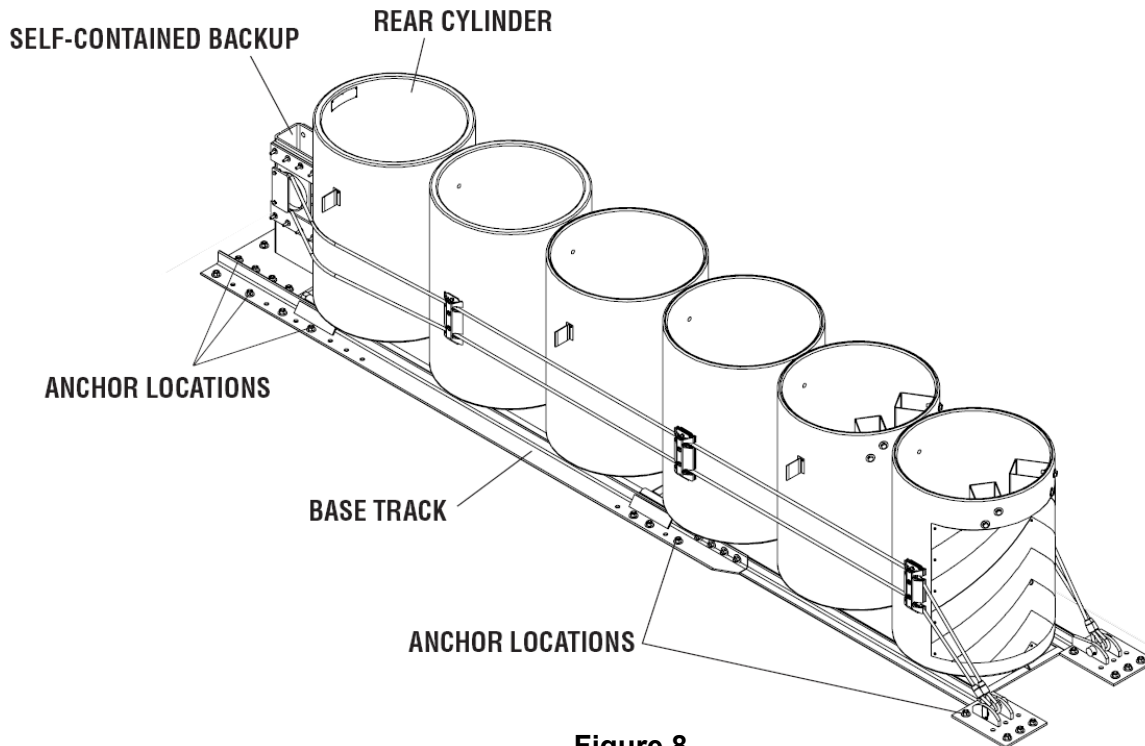

Figure 8
Use the holes in the Base Track as a template to locate and drill fifty-six (56) holes, 7/8" [22 mm] diameter x 6 1/4" [140 mm] deep into the concrete pad or roadway surface (Figure 8). **All holes in base plate must be used to anchor the REACT 350® Narrow to the foundation.** Use an approved adhesive kit to assemble 3/4" x 7 1/2" long studs using instructions included with kit. After adhesive has hardened, use 3/4" flat washers and nuts provided with the approved adhesive kit to anchor Base Track to foundation.